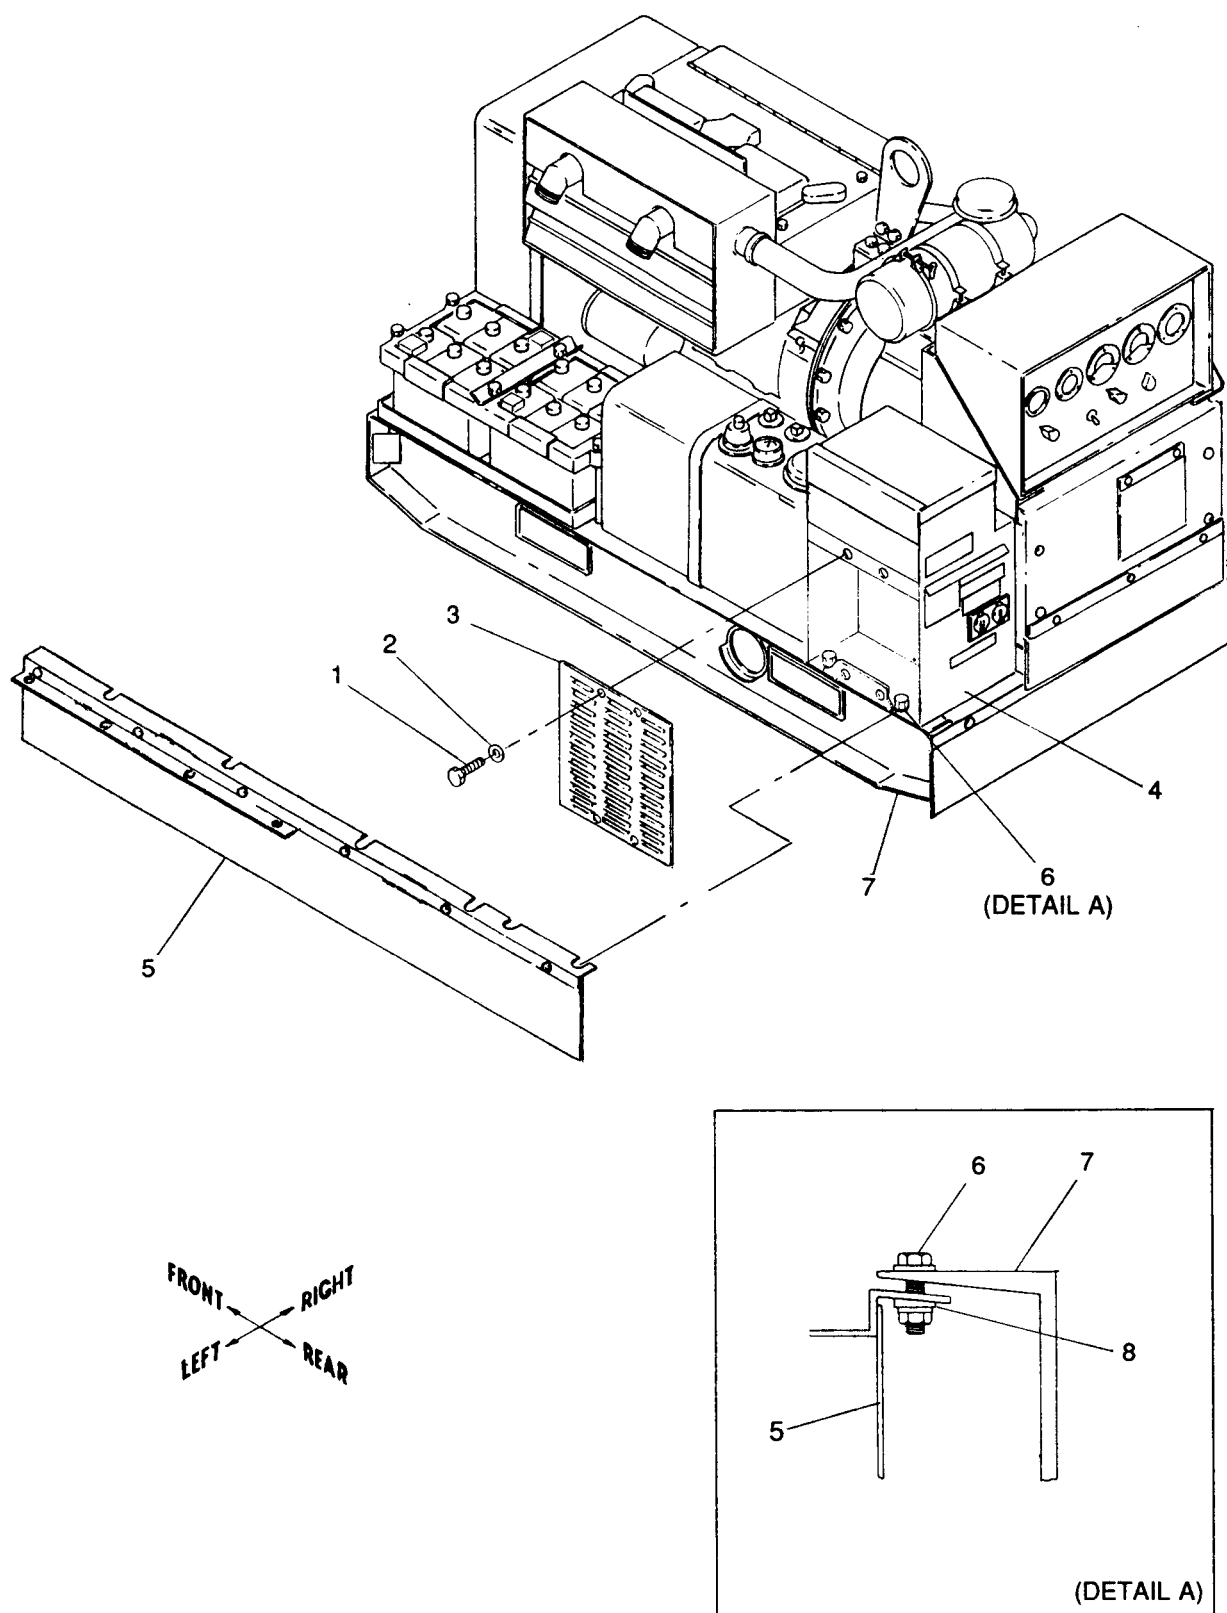

Figure 10-3. Installation of Left Support Assembly
(1) Refer to figure 10-3 to remove four screws (1) and lockwashers (2) securing access plate (3) to AC output control box assembly (4).
(2) Cut a 61 in. length of adhesive backed teflon tape (as listed in Table 10-1, item 2). Apply adhesive backed teflon tape to a clean left support assembly (5) top surface (surface that mounts against underside of support frame). Use hand pressure to remove air bubbles. Clear teflon tape away from screw slots.
(3) Loosen four existing screws (6) and slide left support assembly (5) between skid (7) and bevel washers (8) as shown in figure 10-3, detail A.
(4) Torque four existing screws (6) to 26 ± 2 ft-lbs dry.
(5) Refer to figure 10-3 to install four screws (1) and lockwashers (2) which secure access plate (3) to AC output control box assembly (4).